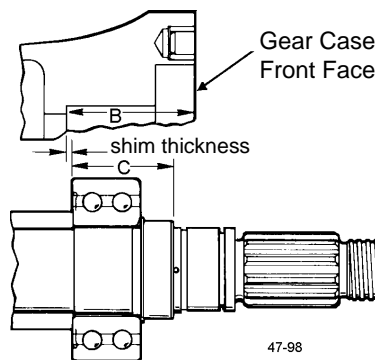
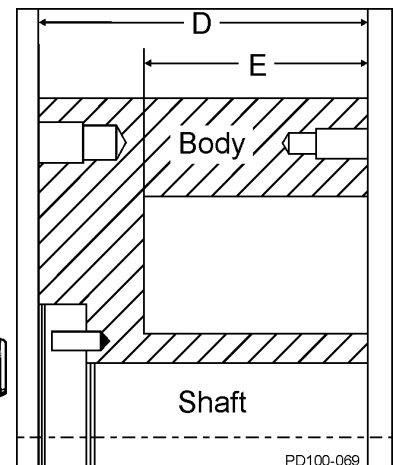

Figure 84 - Measure B and C
Figure 85 - Measure D and E
4. **If it is necessary to calculate the required shims for replacement shafts, bearings or both,** refer to Figure 84 and Figure 85; carry measurements and calculations to three decimal places (i.e. 0.059).
- Measure “B” in the gear case and “C” on the shaft (Figure 84).
- Measure “D” and “E” on the body (Figure 85).
Table 3: Callout table for Figure 84 and Figure 85